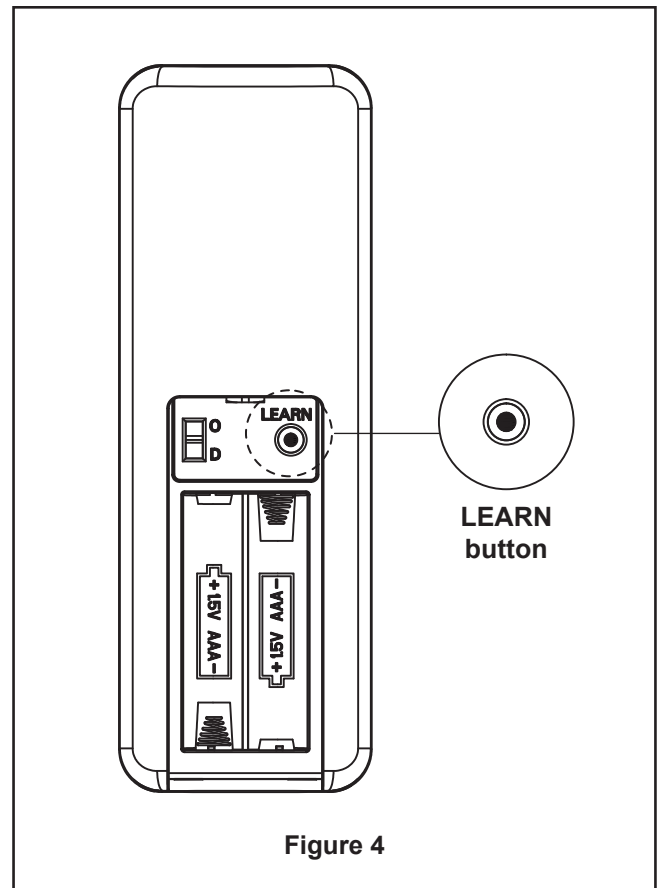

Figure 4
6. Learning Process: (Figure 4)